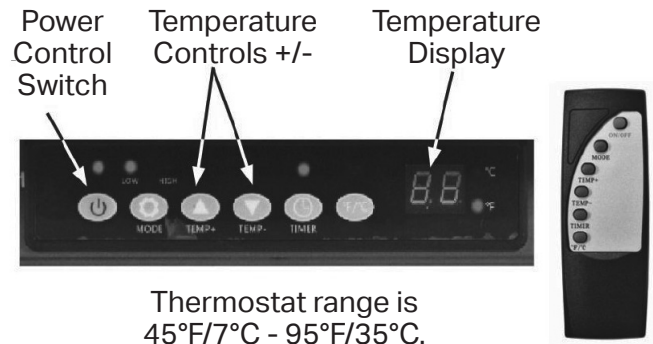

Figure 2
2. The temperature setting can be adjusted between 45°F (7°C) to 95°F (35°C). To change the temperature, press the TEMP+ or TEMP- buttons on either the unit or the remote. (See Figure 2)